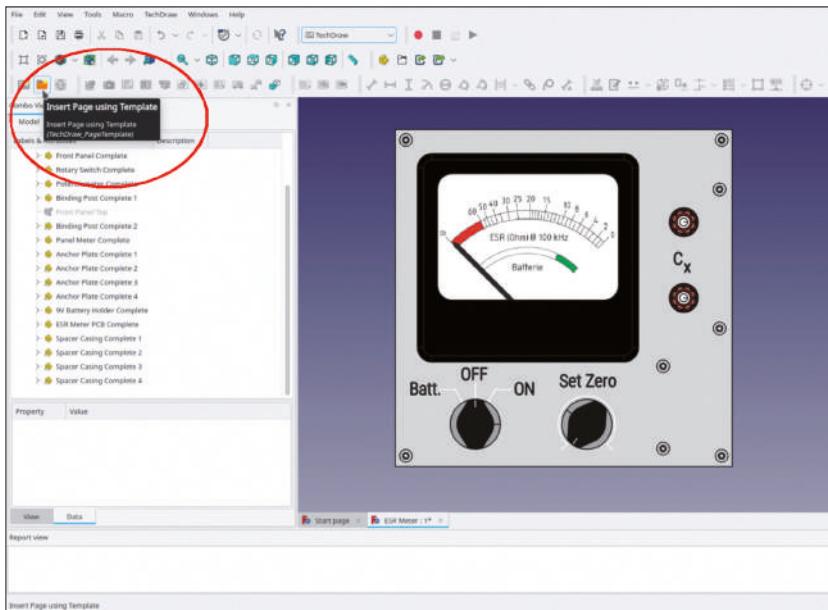

Figure 8-34
2. Switch to the 'TechDraw' workbench. Click on the 'Insert Page using Template' tool button (Figure 8-34).